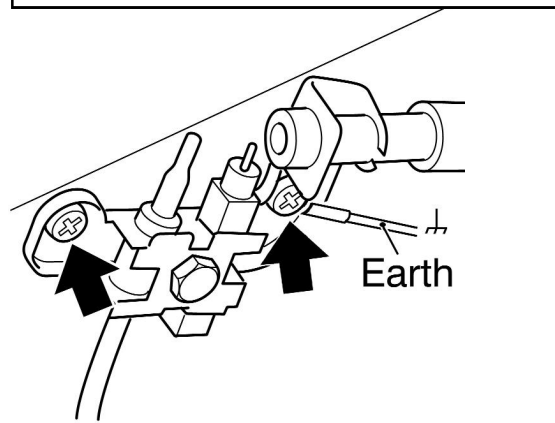

Figure 36. Pilot unit removal
7. Remove the two screws securing the pilot unit (See figure 36).
8. Refit in the reverse order. It is important to connect the earth tag as shown in figure 36. When fitting the thermocouple wires back into the electronics box note that there are two different size recepticals. The tags on the electronics box are the best guide for fitting.